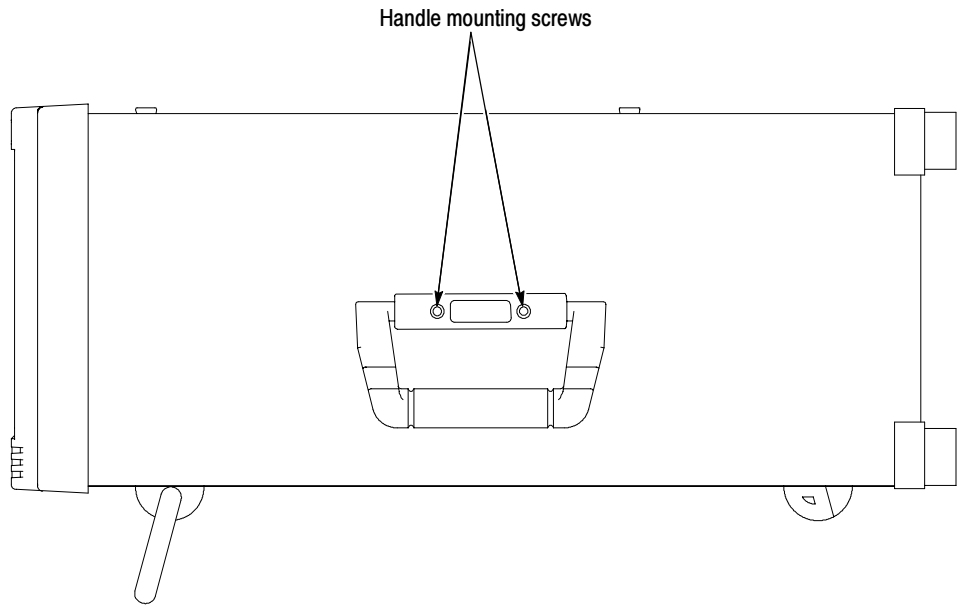

Figure 1: Right side handle screws
5. Remove the two screws from the handle on the left side of the cabinet (see Figure 1). These screws attach to posts mounted on the power supply module.
8. Position the handle on the left side of the chassis and replace the two screws that attach the handle to the chassis (see Figure 1).